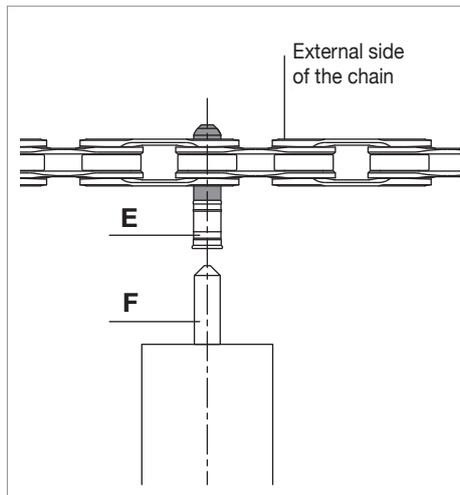

Fig.11
- Check that the tapered tip of the pusher (F) (**Fig. 11**) is in line with the centre of the bushing 5-CN-SR700 (E) (**Fig. 11**).